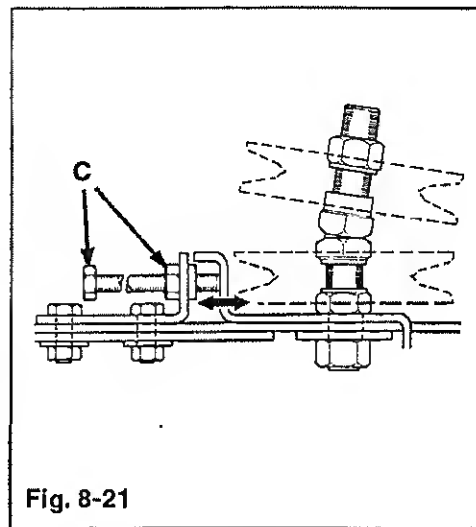

Fig. 8-21
1. Re-install blower assembly (F) to mower deck. Reverse step 5 in BLOWER REMOVAL.
2. Re-install chute assembly (D).
3. Install belt & adjust. Fig. 8-21 & 8-25.